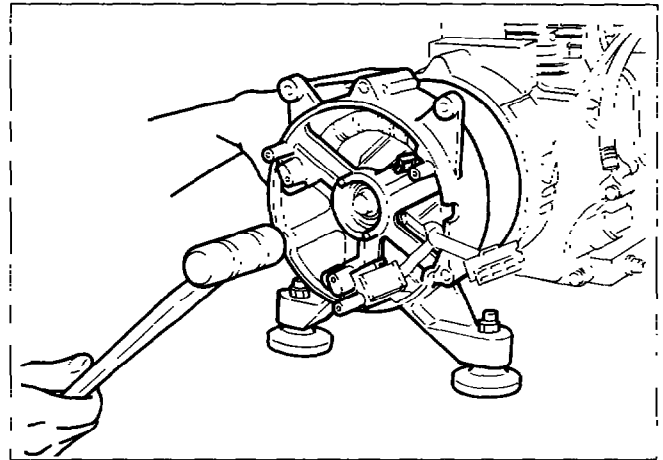

Fig. 10-33
- (1) Holding the rear bracket and stator, fit them to the front bracket. Match the mounting hole of the rear bracket and that of the rotor bearing, and softly strike the outside periphery of the rear bracket with a plastic hammer. (See Fig. 10-33.)
- (2) Attach the stator cover around the stator.